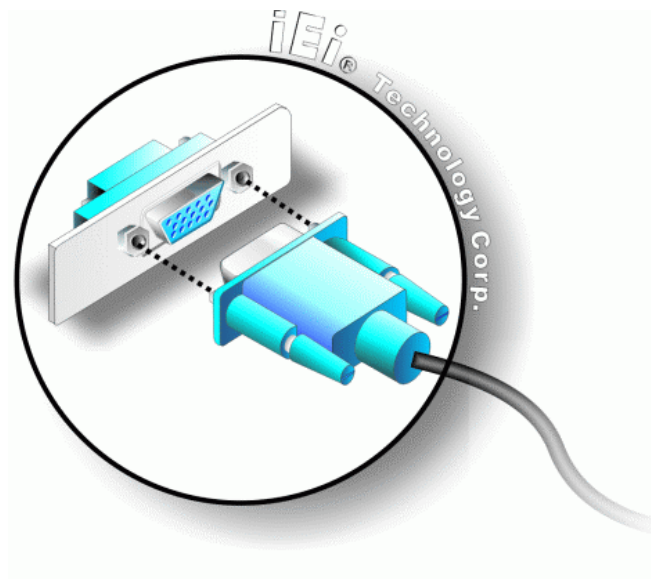

Figure 5-24: VGA Connector
- Step 3: Insert the VGA connector** Once the connectors are properly aligned with the insert the male connector from the VGA screen into the female connector on the PCIE-9452. See **Figure 5-24**.